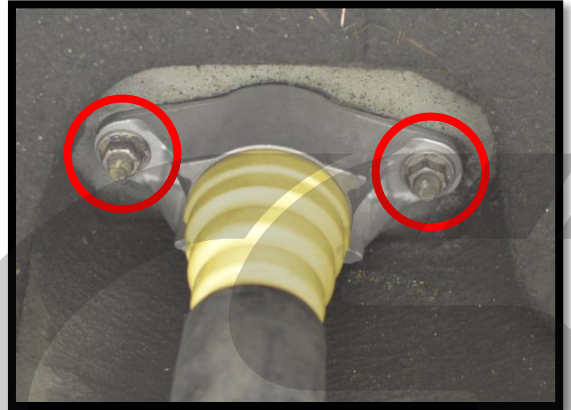

Figure 4b
- h) Use a 14mm socket and extension to remove the two shock top nuts. **Circled in red in Figure 4b.**